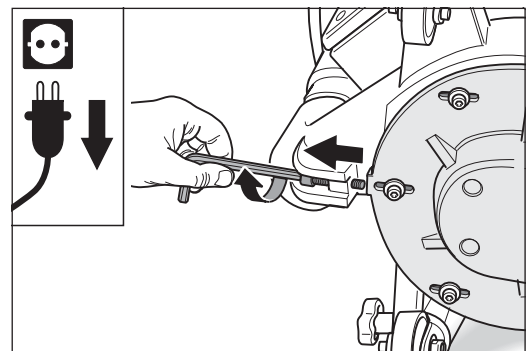

Fig. 58 Unscrew the belt-tensioning screw all the way back.
- 3 To relieve the V-belt tension, use the proper Allen key to unscrew the belt-tensioning screw all the way out until this screw disappears on the front side in the threaded hole of the fan housing (fig. 58).